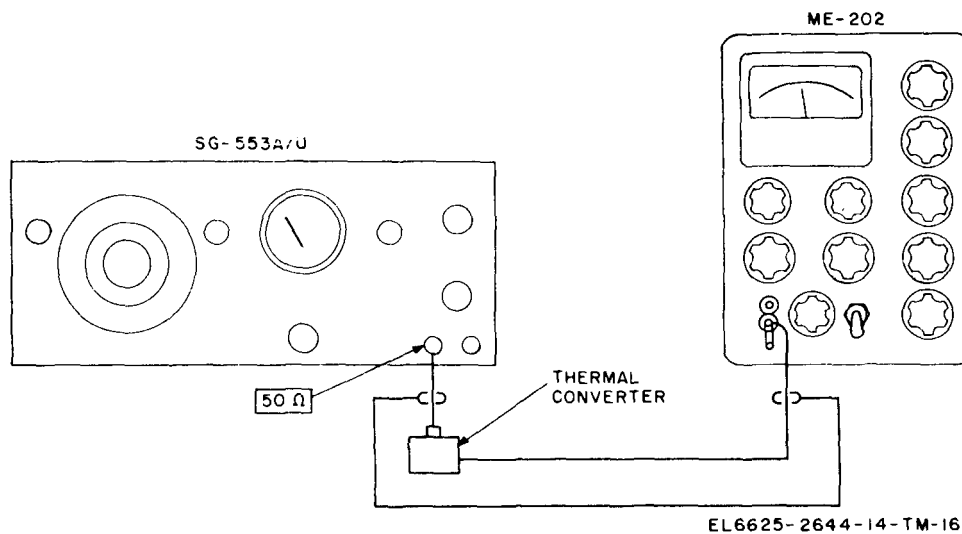

Figure 7-5. Output level meter, expanded scale accuracy, test setup.
b. *Test Connections and Conditions.* Interconnect equipment as shown in figure 7-5.